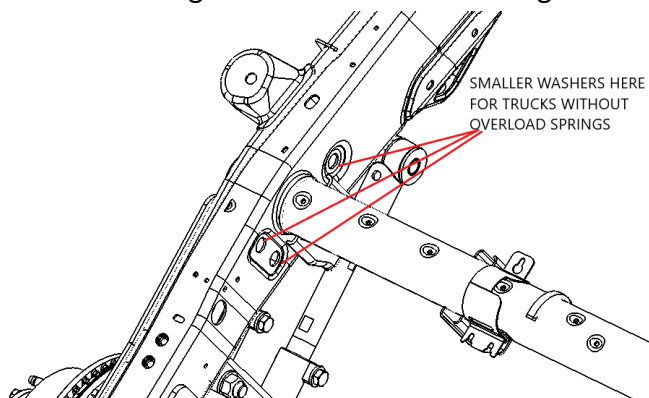

Figure 21
- 12:** Locate the front trailing arm mounts. DS Perch Mount P/N 10006415, PS Perch Mount P/N 10006377. Place them against of the upper bag mount side plate. The front of the mount goes into the front leaf spring mount and uses the factory leaf spring bolt. If your truck came with overload springs, you will use the M12 x 1.75 – 130mm bolts on the Driver's Side and M12 x 1.75 – 140mm on the Passengers Side. If your truck did not come with factory overload springs see the following step. See figures 21,22, and 23.
- 13:** If your truck did not come with overload springs, you will use 7/16" hardware in those holes. If using the 7/16" hardware, the larger washer goes on the outside of the kit, the smaller washer goes into the frame. See figure 21.